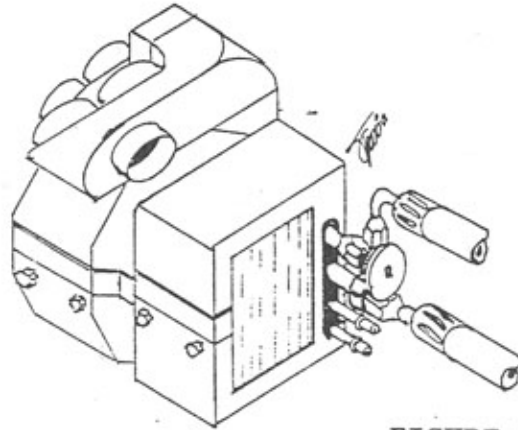

FIGURE 3
9. Install and tighten evaporator fittings with hose attached to the evaporator. Place the evaporator on a work bench and tighten each connection with two wrenches, one on the fitting and one on the counterpart fitting attached to the evaporator. (Figure 3)